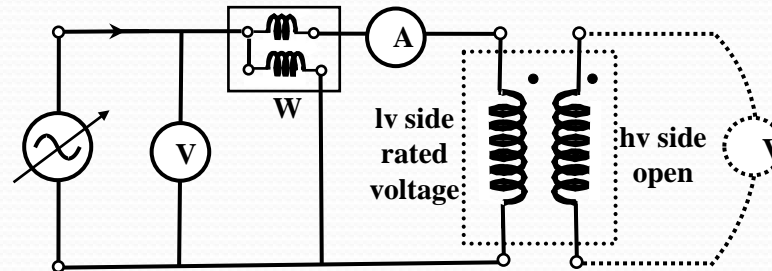

Figure 4.28 Connection diagram for open circuit test
- This test is carried out to determine the shunt parameters r_c and x_m of the transformer. The connection diagram of the test set-up is shown in Figure 4.28.